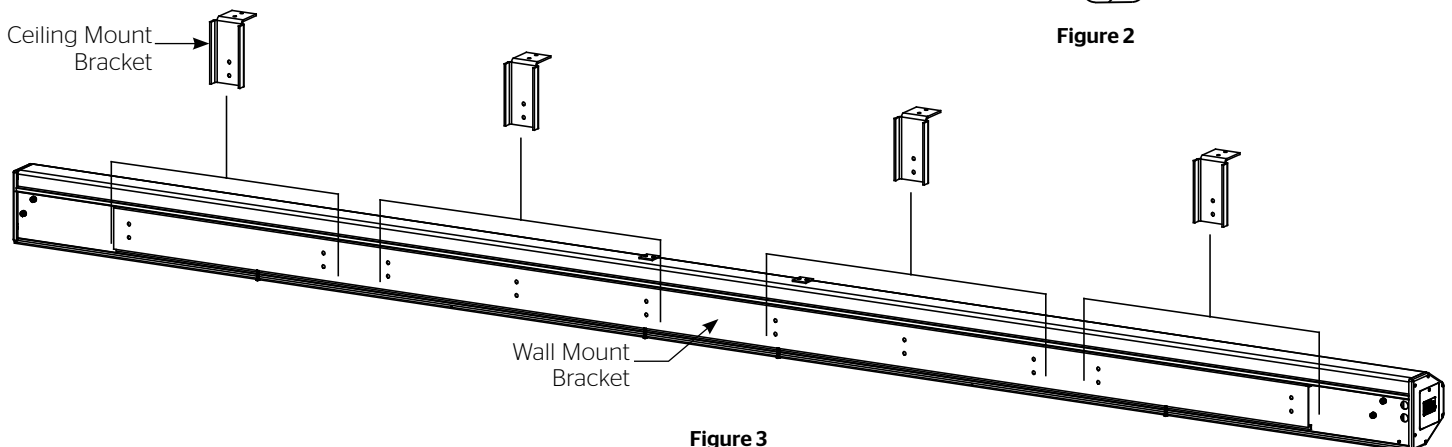

Figure 3
2. The ceiling brackets are pre-attached to the wall mount bracket using 5/16" x 3/4" bolts, washers and nuts. The brackets can be adjusted within the ranges shown in figure 3.